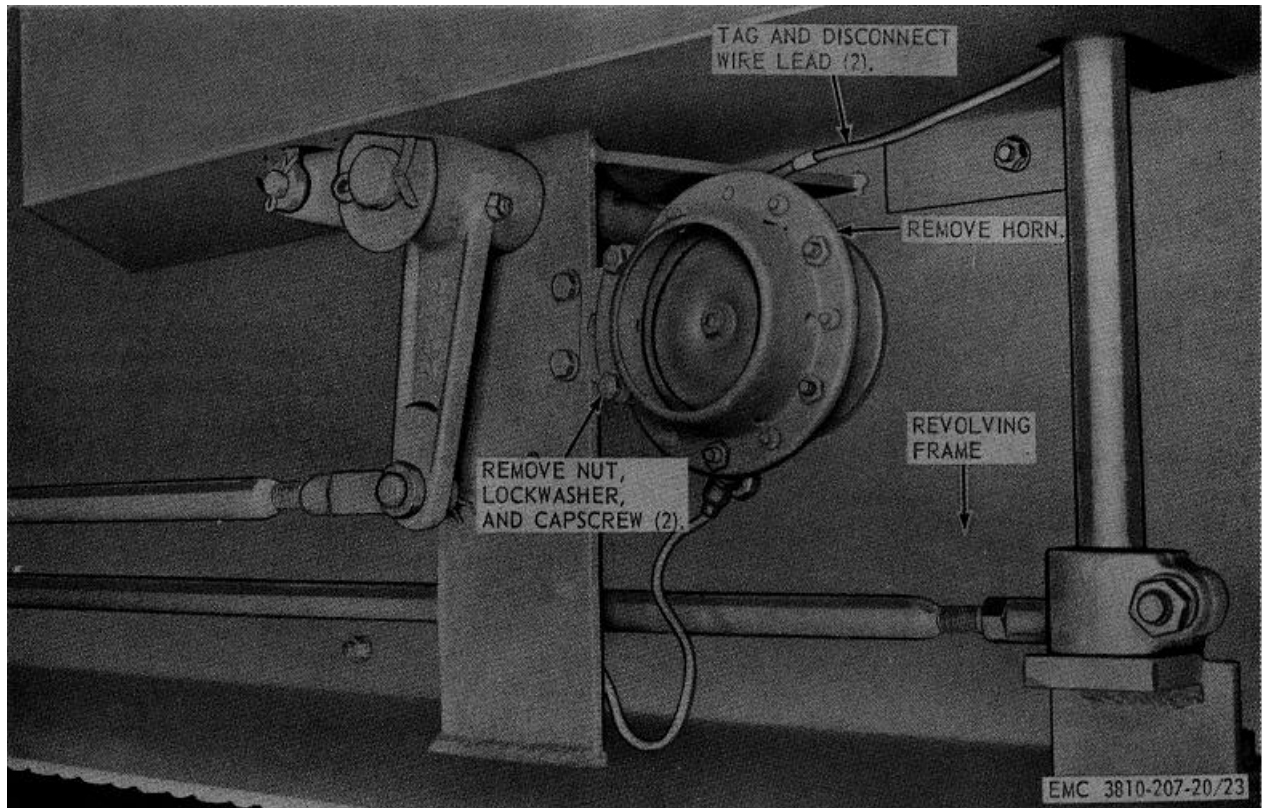

Figure 23. Horn, removal and installation.
- a. Remove the horn as instructed on figure 23.
- d. Install the horn assembly as illustrated on figure 23.